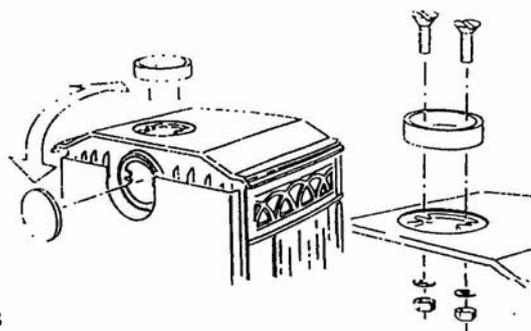

Fig3
- For a top flue connection, attach the circular cast iron collar to the aperture located at the top of the appliance, using the nuts, bolts and washers supplied. Use a small amount of fire cement to ensure an air tight seal before fixing. For a rear flue connection, adopt the same procedure using the rear aperture. Fit the cast iron circular cover plate to the unused aperture again using a small amount of fire cement as a seal. The cover plate is attached using the fixing bar and nuts and bolts supplied. See Fig 3.